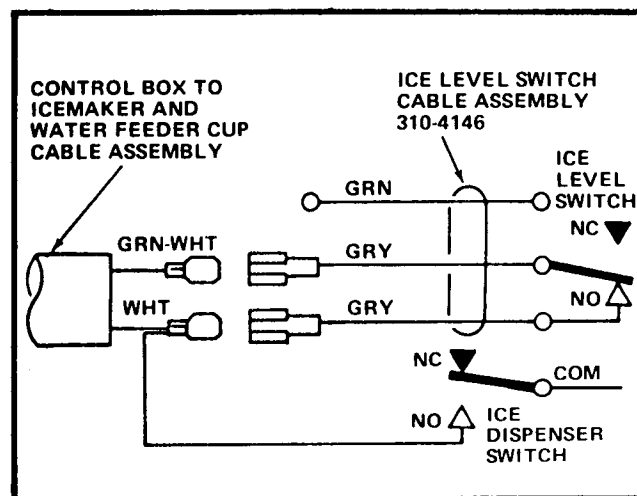

FIGURE IV-5
V. Attach the 2 quick-disconnect Terminals on the ends of the replacement Ice Level Switch Cable Assembly to the quick-disconnects on the Control Box To Icemaker And Water Feeder Cup Cable Assembly. The polarity of the connection is not imperative. See Figure IV-5.